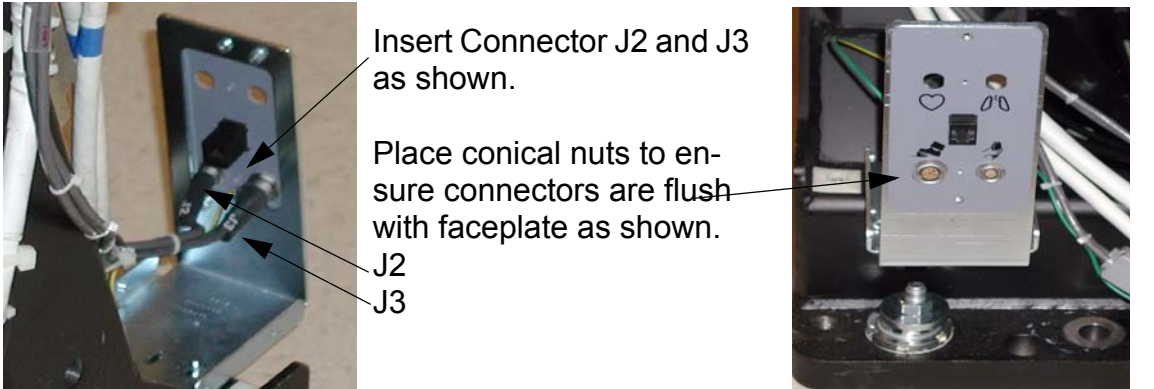

Figure 2-5 Installing the Lemo Connectors
- 5.) Refer to Figure 2-5. Attach the SmartStep cable to the faceplate, as follows: